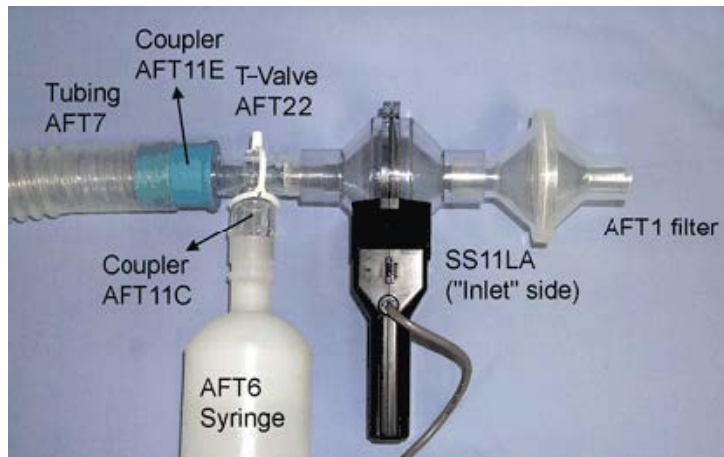

Figure 3: Schematic of airflow accessories connected to Gas-System2
2. Assemble airflow accessories and connect them to the gas chamber. Keep in mind that some of these components might already be assembled (Fig. 3).